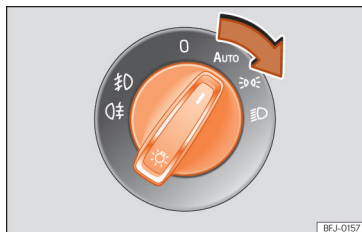

Fig. 82 Instrument panel: light panel.
- Turn on the ignition and turn the light switch to the desired position >>> Fig. 82: